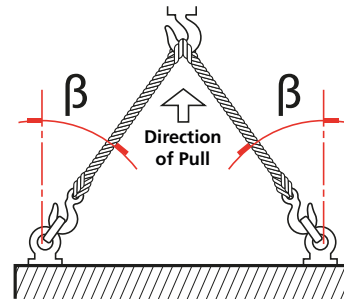

Fig 7.1 Lifting (single-acting actuator up to size 161)
- In case of single-acting actuator, hook the chain sling and textile sling on the lifting lugs, as shown in Fig 7.1.